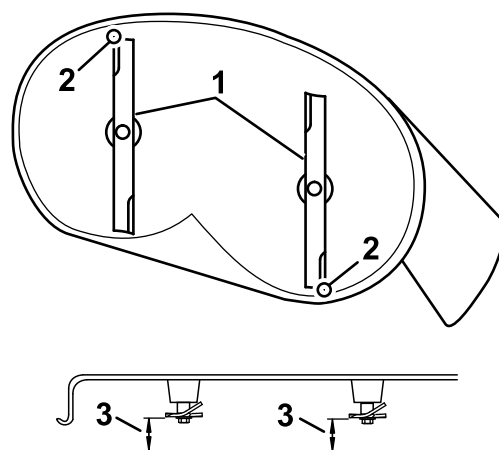

Figure 69
4. Carefully rotate the blades so they are facing front to rear (Figure 69).
5. Measure from the tip of the front blade to the flat surface and the tip of the rear blade to the flat surface (Figure 69).